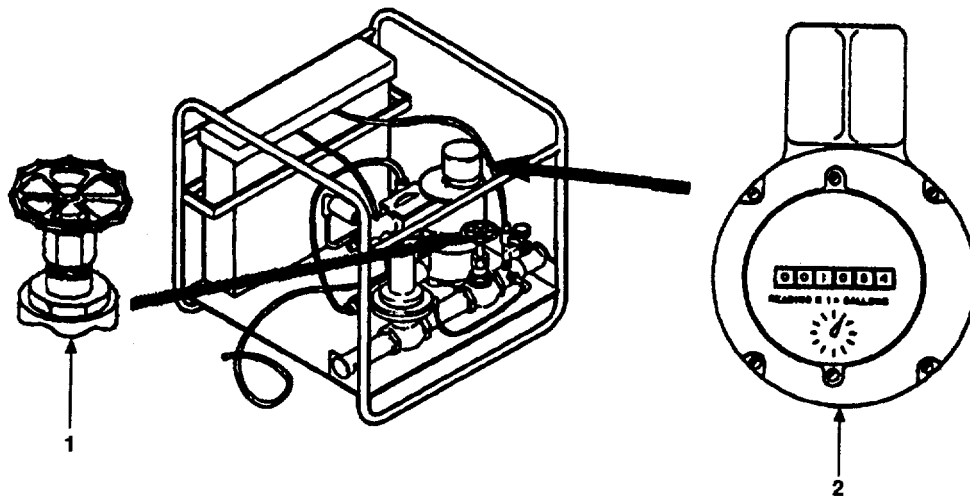

Figure 2-46. Hypochlorination Unit Model 1955-1 Control and Water Meter.
- f. Open range adjusting valve (Figure 2-46, 1).
- g. When flow rate is at maximum, close range adjusting valve (1) slowly until water meter register (2) indicates flow rate of 14 gpm.
- n. Make residual tests para 2.5.5.7 at frequent intervals to see if desired residual is being maintained. Over an extended period of time, unit requires some adjustment, steps k. or 1. above, to keep residual at desired level. o. To stop unit, close range adjusting valve (Figure 2-46, 1). Hypochlorination unit will not operate when there is no flow through water meter.